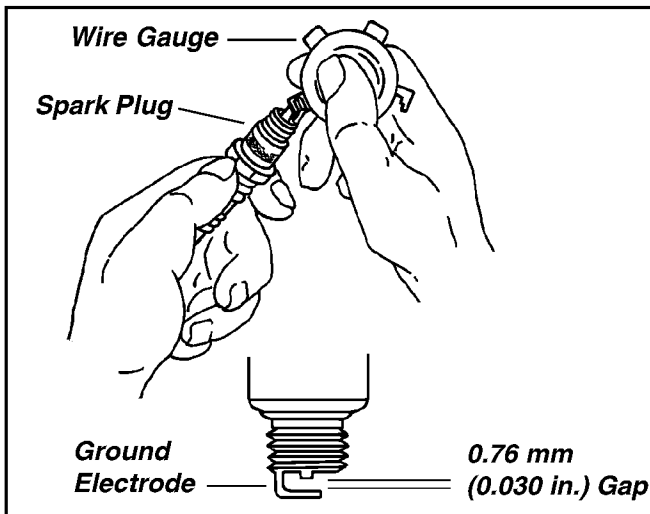

Figure 14. Servicing Spark Plug.
- Check the gap using a wire feeler gauge. Adjust the gap to **0.76 mm (0.030 in.)** by carefully bending the ground electrode. See Figure 14.